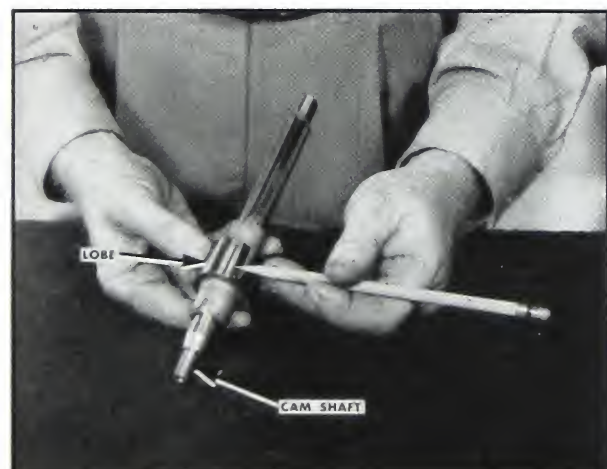

Fig. 5-303. Checking cam lobes
2. Check the gears and cam lobes for wear, score marks, and scuffing. Any light score marks on the cam lobes usually can be polished off with crocus cloth. Fig. 5-303.